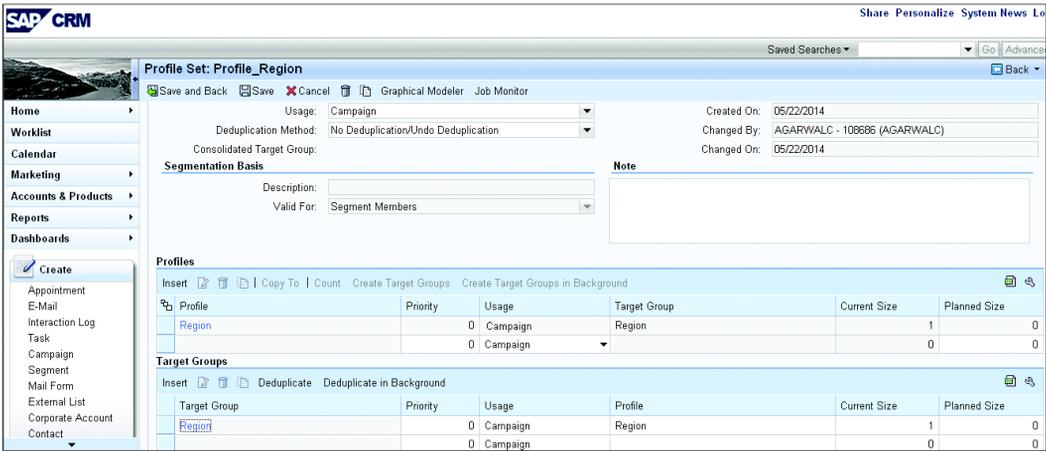

Figure 5.55 Profile and Target Group Created with the Business Partner Count
14. Click **SAVE** and then **BACK** to view the profile set. You'll see the profile and the target group created with the count 1, as shown in Figure 5.55.